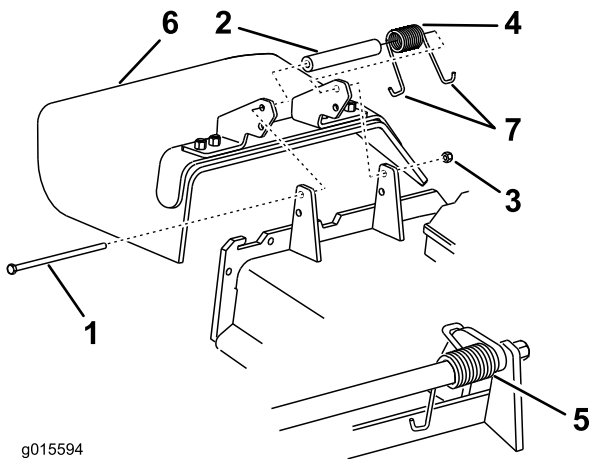

Figure 99
1. Remove the locknut, bolt, spring, and spacer holding the deflector to the pivot brackets (Figure 99).
Note: Make sure that one **J** end of spring is installed behind deck edge before installing the bolt as shown in Figure 99.
5. Place one **J** hook end of spring around grass deflector (Figure 99).